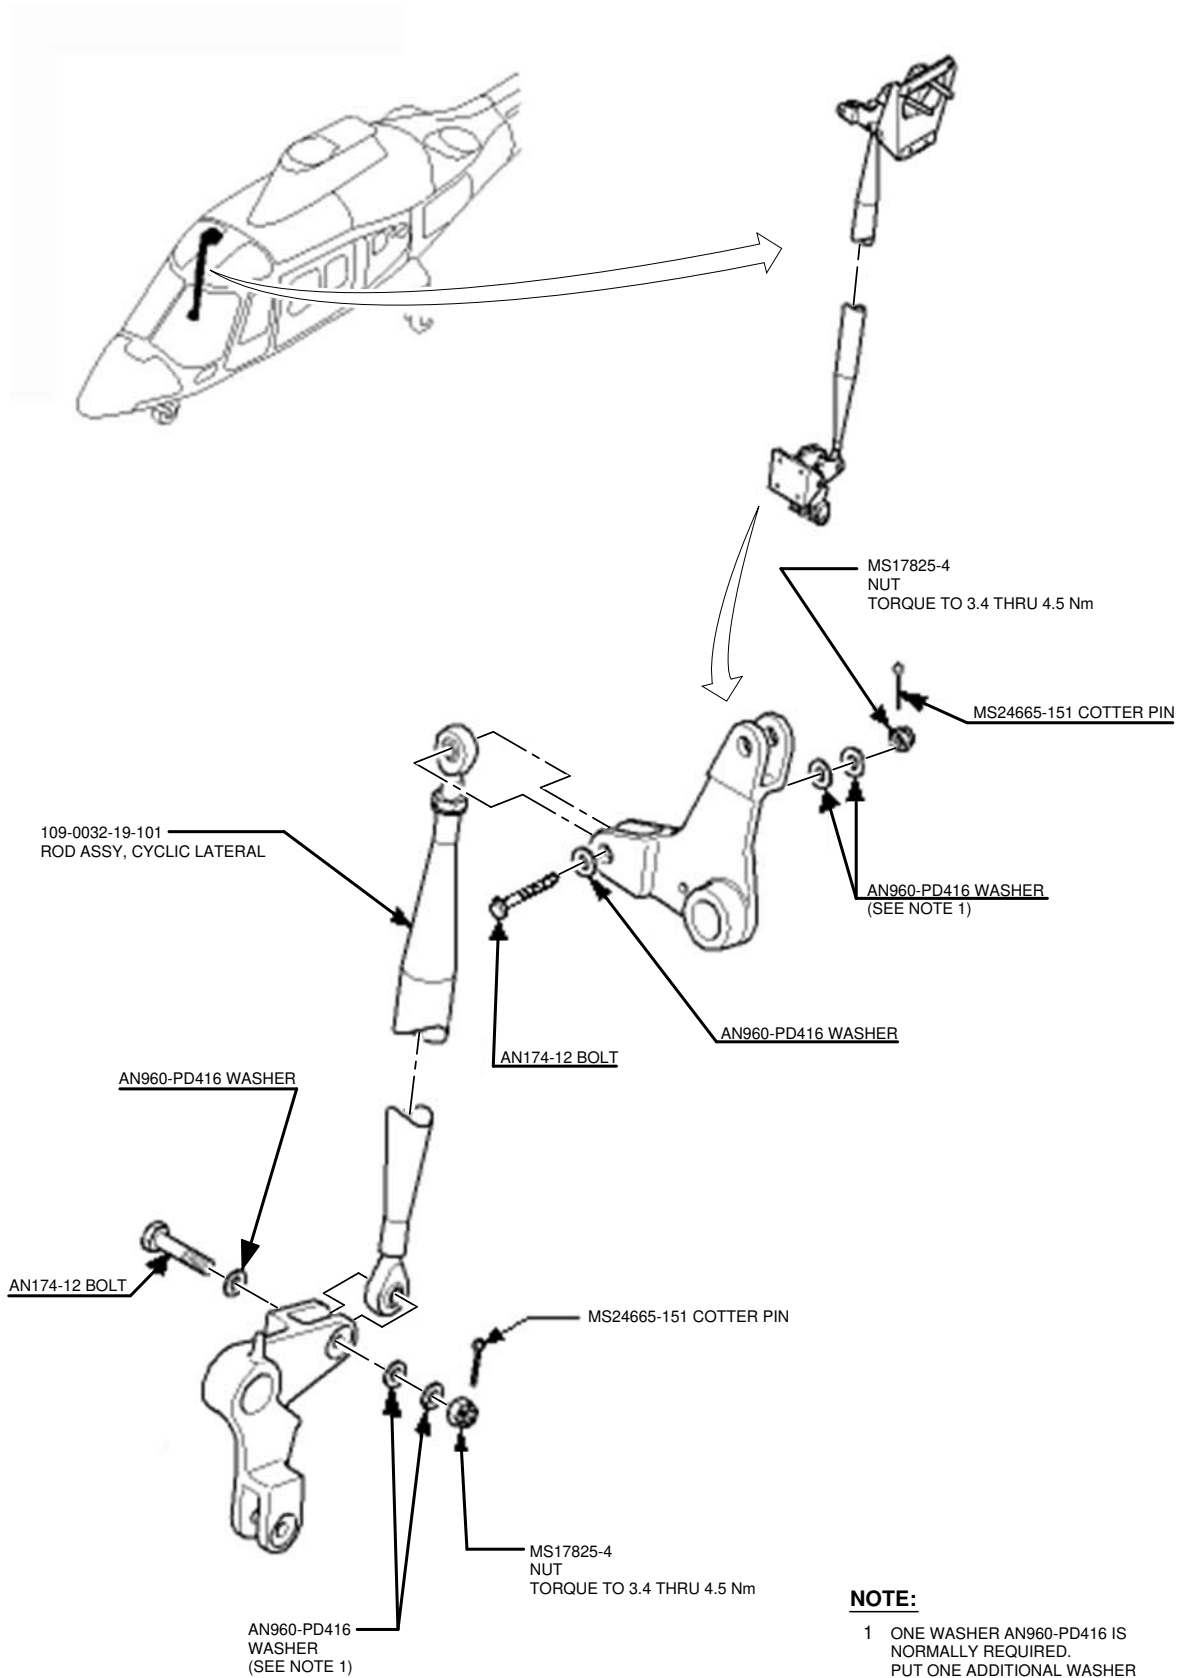

Figure 14
67. With reference to Figure 14 and Figure 15, reinstall the lateral cyclic control rod assy P/N 109-0032-19-101 and the longitudinal cyclic control rod assy P/N 109-0032-07-01 as follows:
- 67.5 With reference to Figure 14, attach the upper end of the lateral control rod to the lever using the bolt P/N AN174-12, one washer P/N AN960-PD416 (under the bolt head), one washer P/N AN960-PD416 under the nut, and the nut P/N MS17825-4. Torque the nut to 3.4 thru 4.5 Nm and install a new cotter pin P/N MS24665-153. If necessary, install one additional washer P/N AN960-PD416 under the nut to obtain the correct engagement of the nut.
- 67.6 With reference to Figure 14, attach the lower end of the lateral control rod) to the lever using the bolt P/N AN174-12, one washer P/N AN960-PD416 (under the bolt head), one washer P/N AN960-PD416 under the nut, and the nut P/N MS17825-4. If required, move slightly cyclic control stick as necessary to allow the insertion of the bolt. Torque the nut to 3.4 thru 4.5 Nm and install a new cotter pin P/N MS24665-153. If necessary, install one additional washer P/N AN960-PD416 under the nut to obtain the correct engagement of the nut.